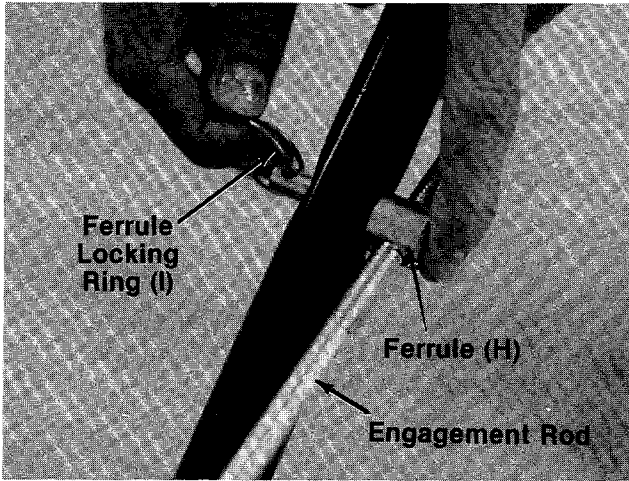

FIGURE 7.
10. With handle in the down position (released), place ferrule (H) on threaded end of engagement rod. Thread ferrule onto engagement rod until it lines up with the hole in lower handle.
11. Place ferrule into hole in lower handle. Secure with ferrule locking ring (I). See figure 7.